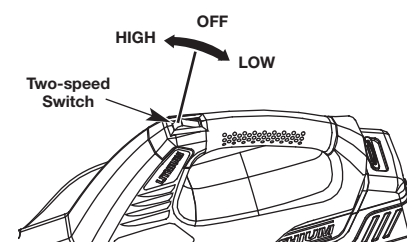

Fig. 3
2. Press the switch to either the HIGH or LOW position (Fig. 3).
1. Press the switch to the OFF position (Fig. 3).